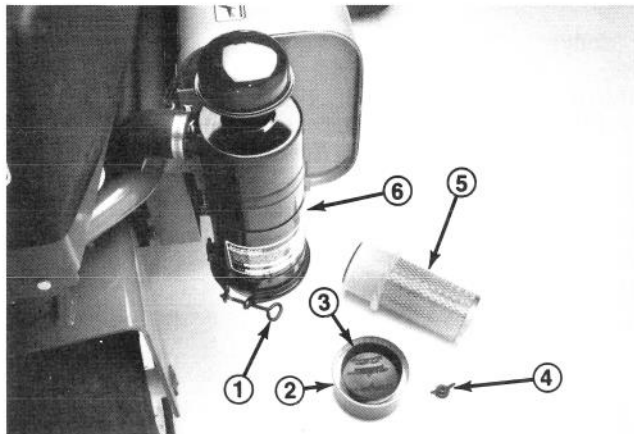

Figure 34
1. Loosen thumb screw until dust cap and baffle can be removed (Fig. 34). Separate dust cap and baffle (Fig. 34).
2. Remove wing nut w/gasket and slide filter element out of air cleaner body (Fig. 34).